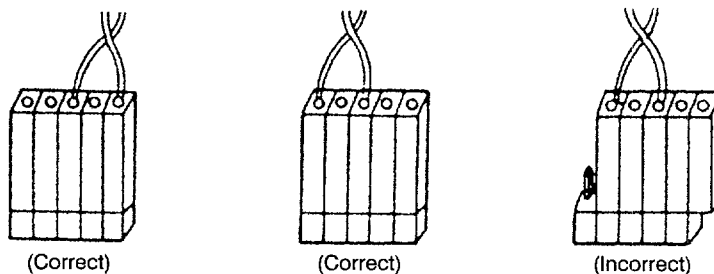

Fig. 2.7 Connecting the Battery Connector
- ① Turn the power OFF.
- ② Remove the battery cover by prying it up with a screwdriver. Then, remove the battery from the holder.
- ③ Fit the new battery in the holder and insert the connector. Although the connector may be inserted in either direction, it must be securely inserted. Otherwise, the power will not be supplied by the battery. (See Fig. 2.7.)